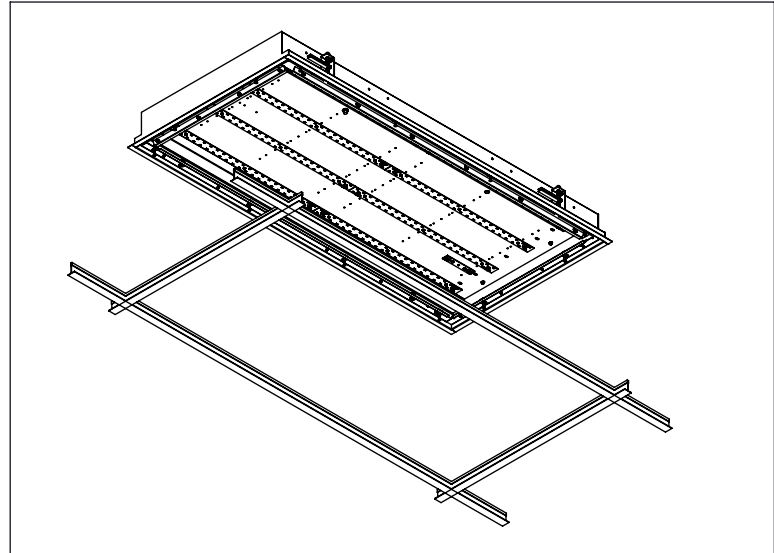

Figure 2
2. Lower housing into ceiling grid (Fig. 2).